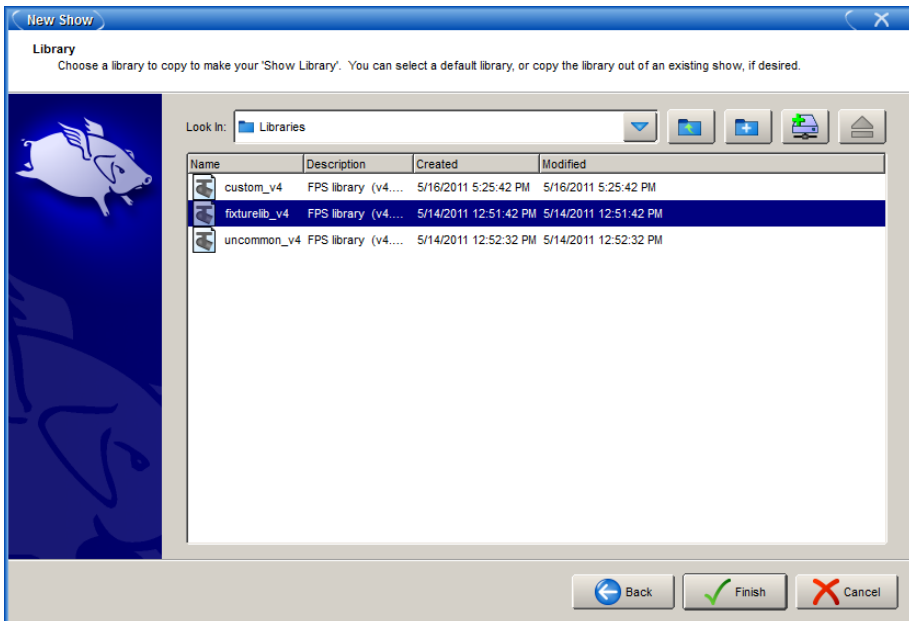

Figure 6.3. The Start Window
1. Once the console is switched on, the Start window will appear (see *Figure 6.3*, “*The Start Window*”). Press the Touchscreens button.
The Wholehog OS Start window (see *Figure 6.3, “The Start Window”*) gives you the option to Launch New Show, as well as launch existing shows or join one currently running over a network.